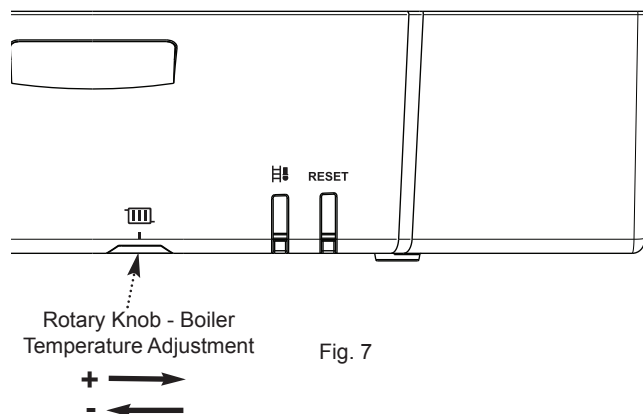

Fig. 7
1. Turn the rotary knob to the right (Fig. 7) to increase the boiler temperature.
2. Turn the rotary knob to the left (Fig. 7) to decrease the boiler temperature.